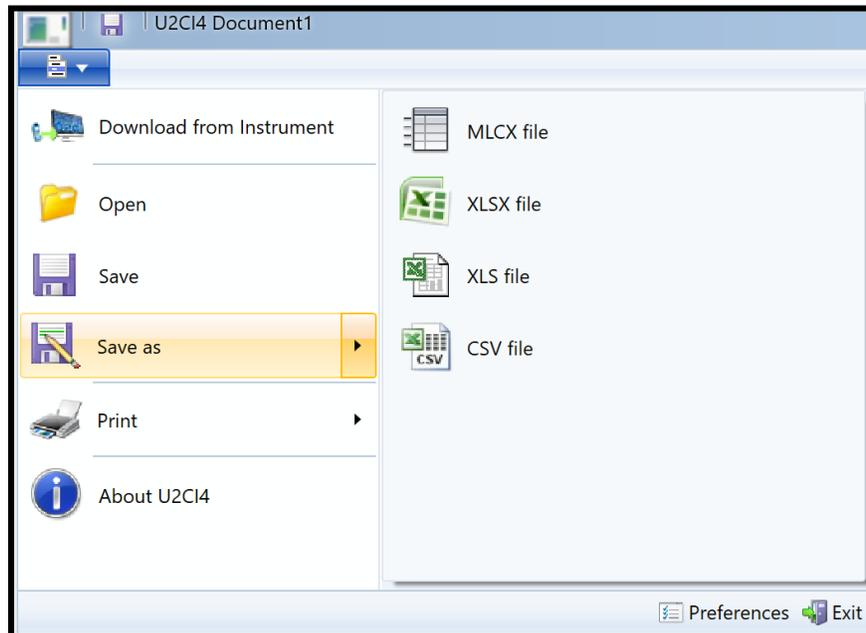

Figure 35
- 1) Select the "**SAVE AS**" command under the active Data Window's File Control Menu (Figure 35).